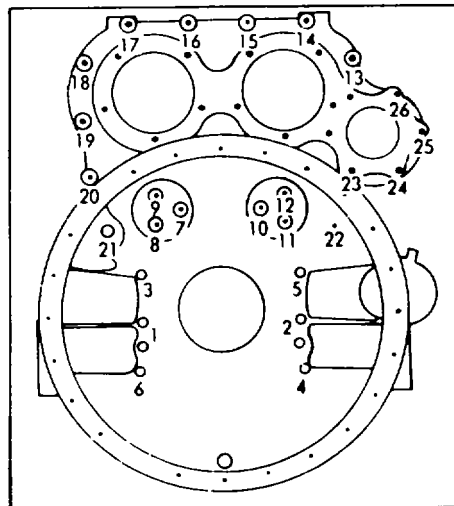

**Figure 3-94. Flywheel Housing, First Torque.**
(8) Refer to figure 3-94 and install mounting bolts and tighten finger tight.
(9) Torque bolts (1) through (26) to 30 lb-ft (30 Nm).